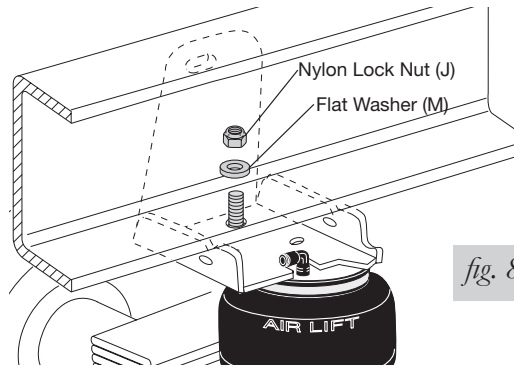

fig. 8
3. Install nut (J) and washer (M) onto the carriage bolt that was inserted through the jounce bumper bracket hole (Fig. 8).